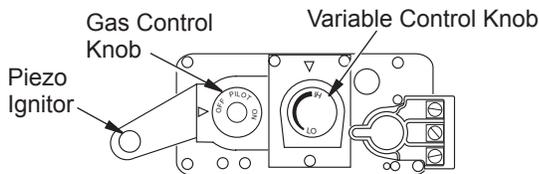

Figure 51 - Control Valve
5. Wait five (5) minutes to clear out any gas. Then smell for gas, including near the floor. If you smell gas, **STOP!** Follow "B" in the safety information above. If you don't smell gas, go to the next step.
7. Turn gas control knob counterclockwise to "PILOT" (see Figure 51, page 25).